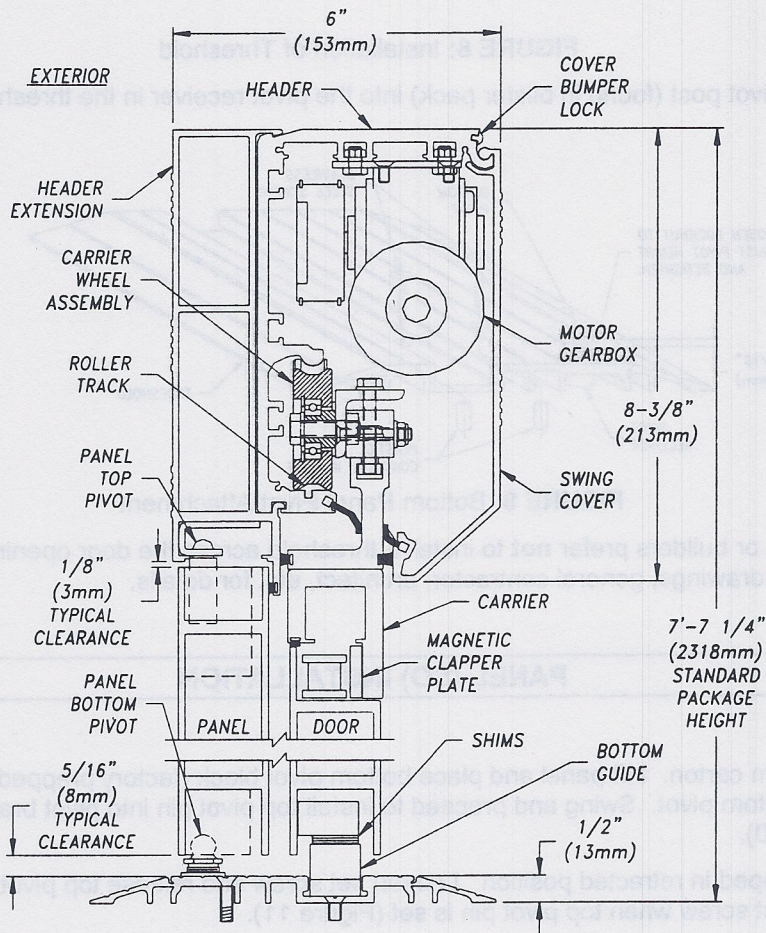

FIGURE 7: Section View through Header, Door and Panel
2. Refer to the following illustration for a detailed section view of a typical Series 96000 Slide inside slide application (Figure 7).